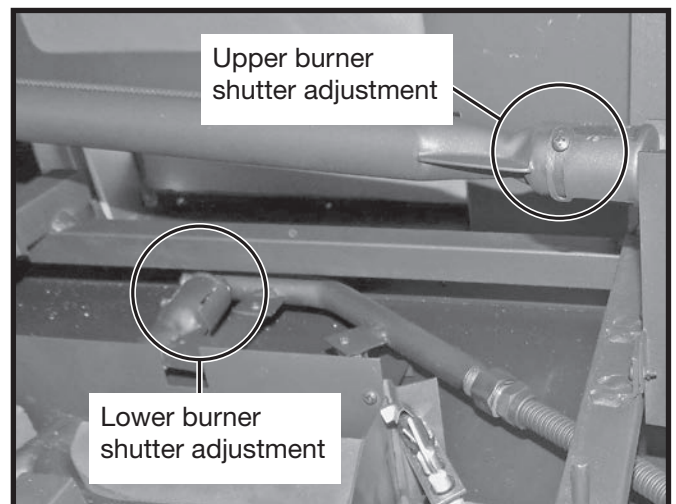
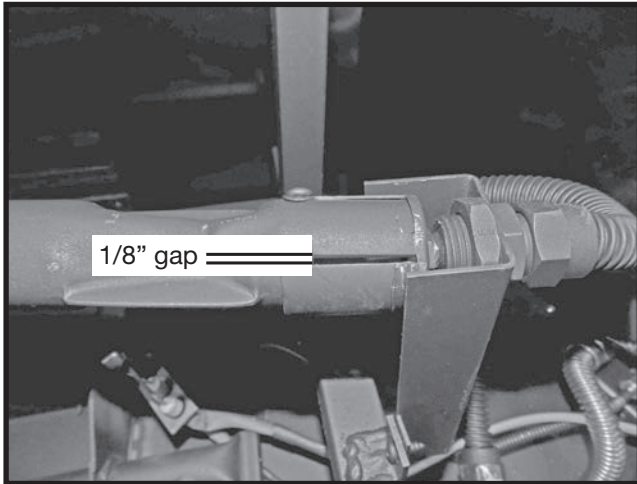
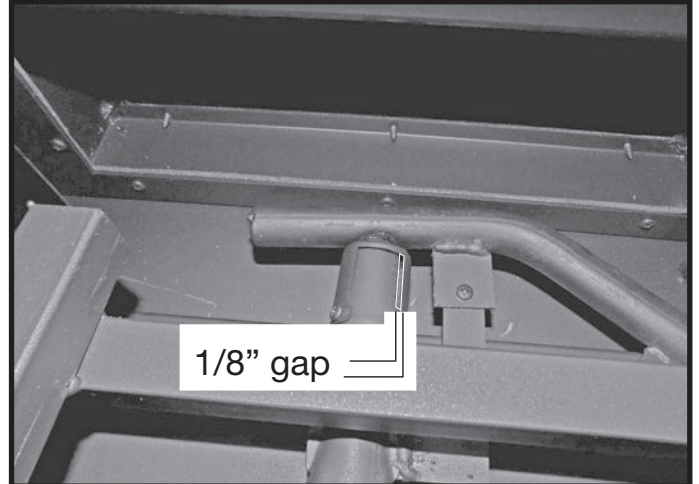

Figure 15: Air shutters locations.ai
Figure 16: Upper burner air shutter.
Figure 17: TC54 Burner Kit lower shutter.
10. Locate the air shutters for both the upper and lower burners (Figure 15). Adjust each of them so that they have an opening gap of 1/8 of an inch (Figure 16 and Figure 17). This setting is for natural gas.